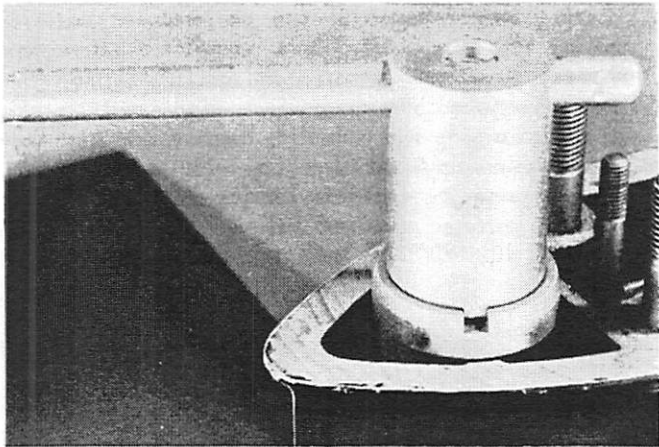

Figure 5. Removing Shift Shaft Bushing
4. Remove lower reverse locking cam from shift shaft bushing. Remove shift shaft bushing, using Shift Shaft Tool (91-23033) (Figure 5), and pull shift shaft out of gear housing. Shifting cam then will fall out of gear housing.